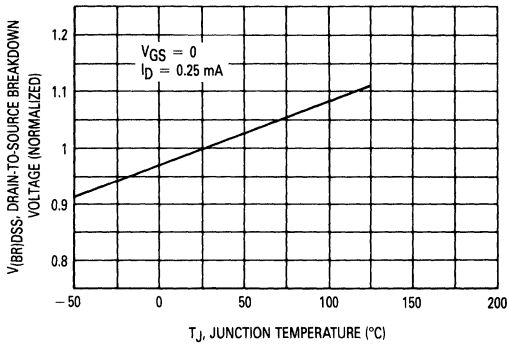

FIGURE 3-1 — NORMALIZED BREAKDOWN VOLTAGE versus TEMPERATURE
- Positive temperature coefficient, as shown in Figure 3-1